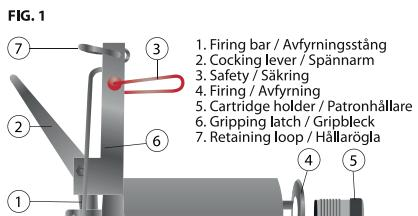
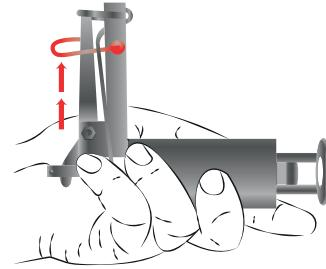
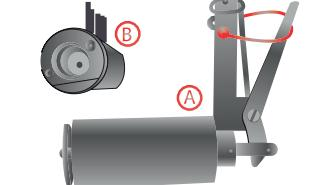
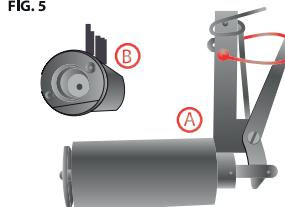

FIG. 1
FIG. 3
FIG. 5
FIG. 6
- Always hold the device with the gripping handle and safety ring facing upward (see Figure 3)! The device may only be held in hand when partially cocked (see Figure 5) or uncocked (see Figure 1). Remove the cartridge holder from the device when not in use and store it separately from the device.
Before each use, check that: The device is uncocked (Figure 1), functional parts are free of dirt, all moving parts operate smoothly, it that it is easy to screw the unloaded cartridge holder into the device (then unscrew the holder again).
- The trap is in the partially cocked position and armed with safety engaged (Figure 5, A). In this state, the firing pin is retracted into the bottom of the cartridge holder (Figure 5, B).
- Push the cocking lever in the firing direction until it snaps into the firing bar's retaining loop (Figure 1, 7). Fold the safety ring forward; the trap is now disengaged and ready for firing (see Figure 6).
- Fold the safety ring (Figure 1, 3) backward and pull back the firing bar. The cocking lever is caught by the safety ring, placing it in the safe, partially cocked position (see Figure 7).